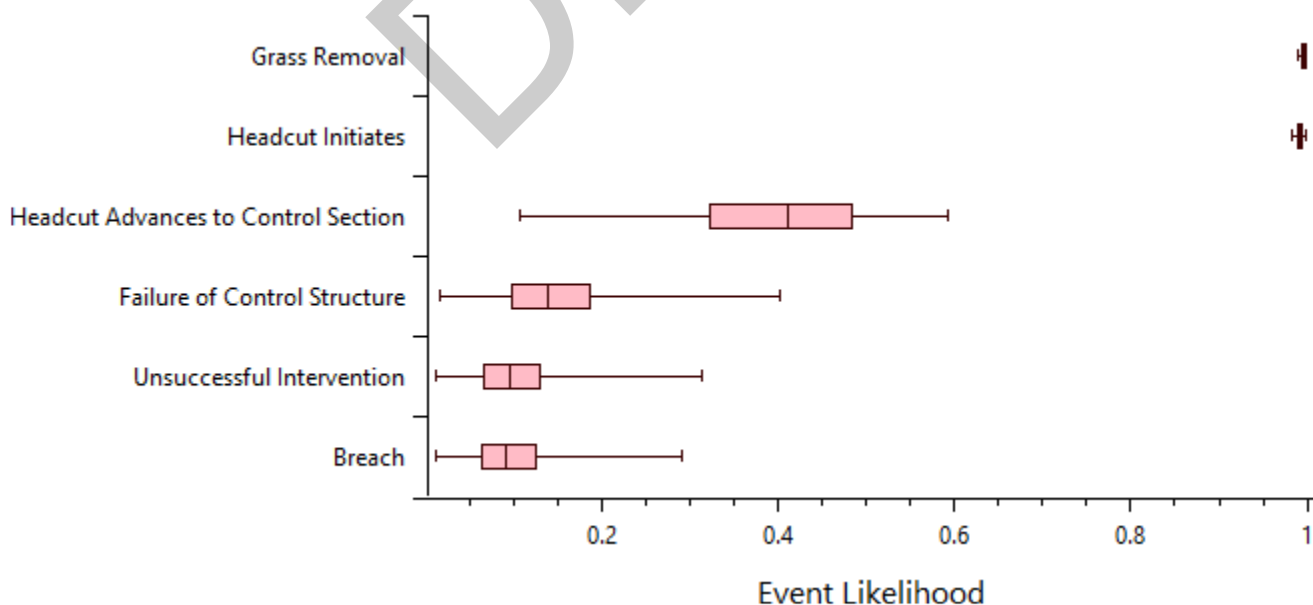

Figure 93 – Event tree diagnostics event likelihood plot option.
- **Event Likelihood** Displays the likelihood of each node occurring in the event tree for the given hazard level (defined in the Model Parameters) as a box and whisker plot (Figure 93).